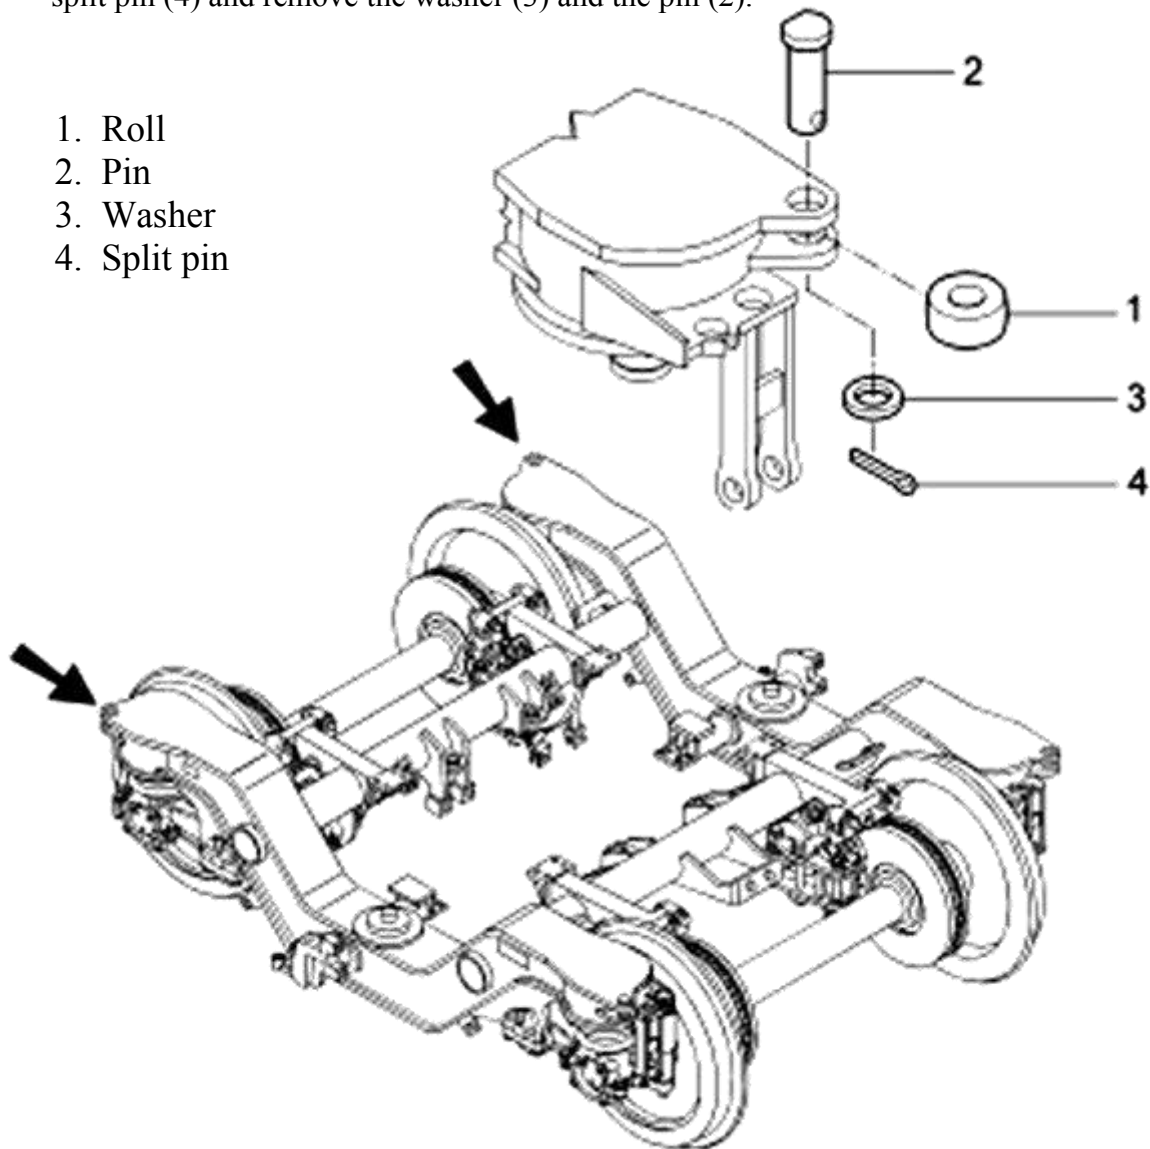

FIG. 4.32 Removal of Corner Rolls
Remove the two rolls (1 - FIG. 4.32) at the outer corners of the bogie frame: extract the split pin (4) and remove the washer (3) and the pin (2).